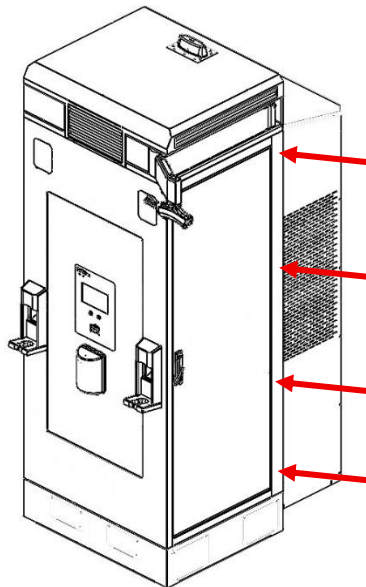

Figure 14 – Re-caulk in between Charger's back wall and heat exchanger (HX)
- f. Using the following caulk, weather-seal the contact surface between HX and charger (Figure 14): *Caulk: 832 Dowsil RTV Sealant, Off-white*